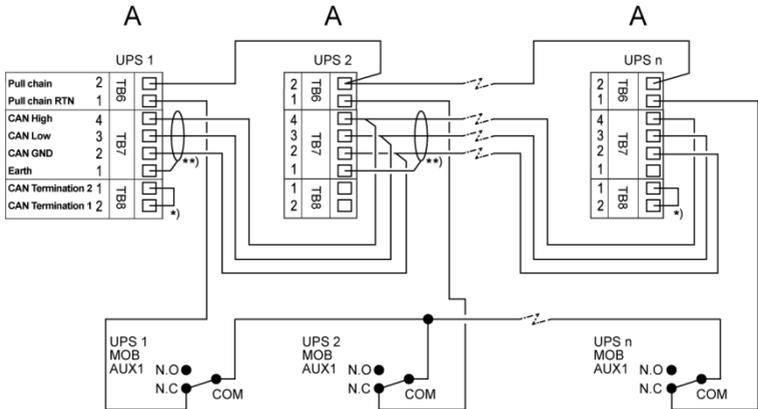
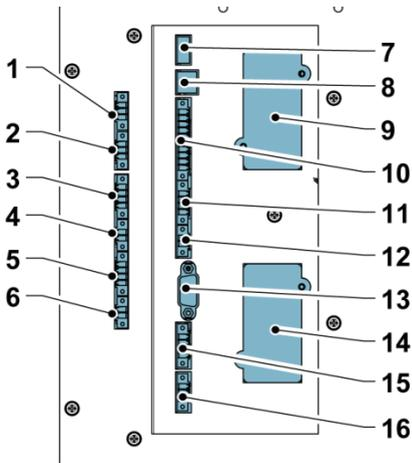

Figure 20. CAN and Pull-Chain wiring for parallel UPS with MOBs
Figure 22. 93PS UPS 8-20 kW communication interfaces
2. Terminal blocks TB6, TB7 and TB8 are for external parallel control signals (see Figure 20 and Figure 22).